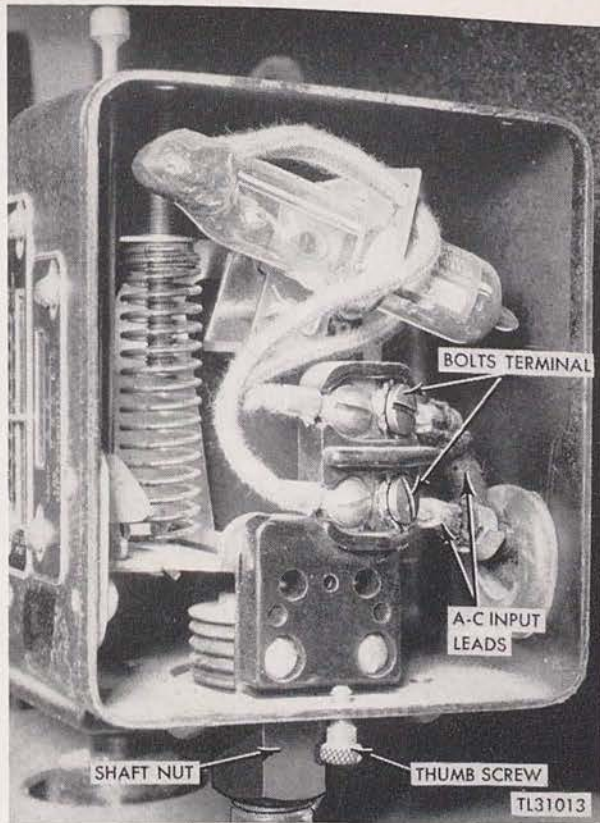

Figure 129. Water Coolers RU-4-A, showing low cutout Switch 6 (cover removed).
- (1) Loosen the thumbscrew holding the case panel and remove the panel from the case (fig. 129).
- (2) Loosen the terminal bolts holding the a-c input leads.
- (3) Remove and tag the a-c input leads.
- (4) Loosen the nut holding the case to the shaft and remove the case.